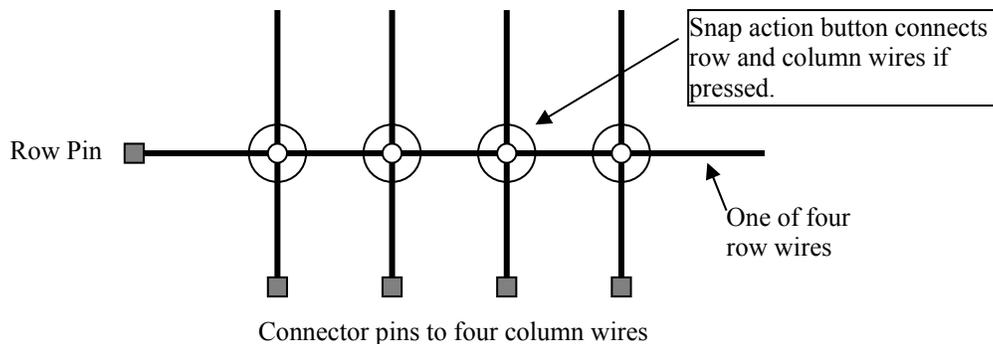

Figure 4-i: Connecting the row and column wires via a button press.
**Discussion:** Your keyboard has a matrix of 4 by 4 wires (8 wires total). When a button is pressed a unique pair of row and column wires is connected (shorted) together. (See Figure 4-i.) You will need to devise a method for determining which pins go with which row or column. One possibility is to use the ohmmeter of the DVM from the Lab 2 set-up.